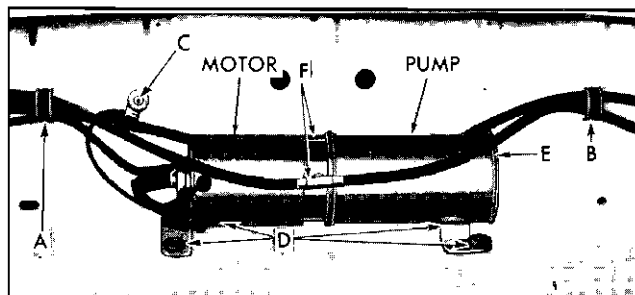

Fig. 7-52 Hydro-Lectric Motor and Pump Assembly
The hydraulic unit which is used in the convertible bodies, consists of a 12-volt reversible type motor, a rotor type pump, two hydraulic life cylinders and an upper and lower hydraulic hose assembly. Fig. 7-52
6. Remove clips A and B, Fig. 7-52, securing wire harness and hydraulic hose to rear seat back panel.
7. Disconnect motor leads from wire harness and ground attaching screw C, Fig. 7-52.
8. To facilitate removal, apply a rubber lubricant to pump attaching grommets D, Fig. 7-52, then carefully disengage grommets from floor pan.
10. With a straight bladed screwdriver, vent reservoir by removing filler plug indicated at E, Fig. 7-52, then reinstall plug.
11. Disconnect hydraulic lines at F, Fig. 7-52, and cap open fittings to prevent leakage of fluid. Use a cloth to absorb any leaking fluid, then remove unit from rear compartment.
- a. Check connection of motor ground wire to body metal. (C in Fig. 7-52).